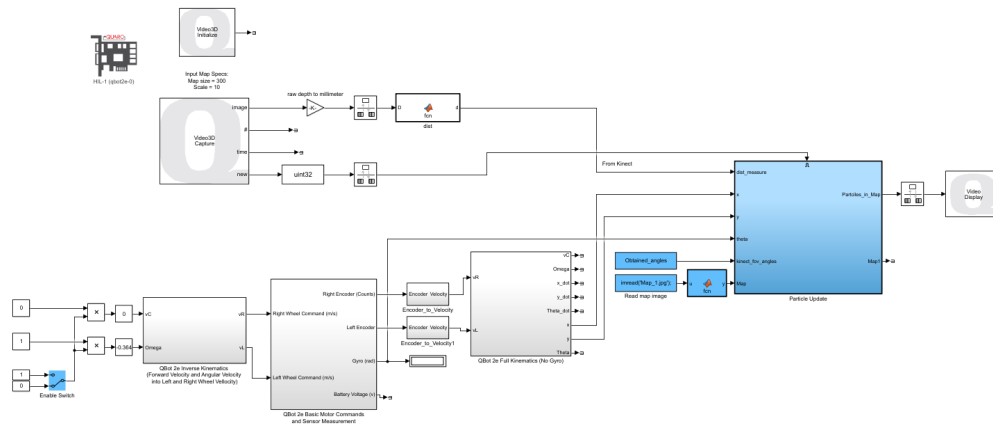

Figure 2.1: Snapshot of the controller model `QBot2e_Particle_Filtering.mdl`
In this exercise, you will become familiar with particle filtering, an iterative algorithm used for localization. The controller model for this exercise, shown in Figure 2.1, is called `QBot2e_Particle_Filtering.mdl`.
1. Wait until the QBot 2e has fully initialized, and then enable the movement of the robot using the manual switch shown in Figure 2.1. This is an important step to insure that the sensor has fully initialized.